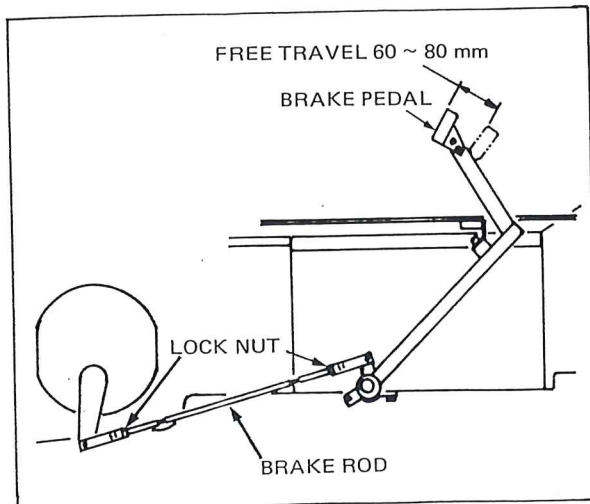

Figure 70 — Brake Pedal Adjustment
2. Loosen the locknut, Figure 70, and rotate the brake rod as necessary until there is 60 — 80 mm of pedal free play. Lengthening the rod increases free play while shortening the rod decreases free play.